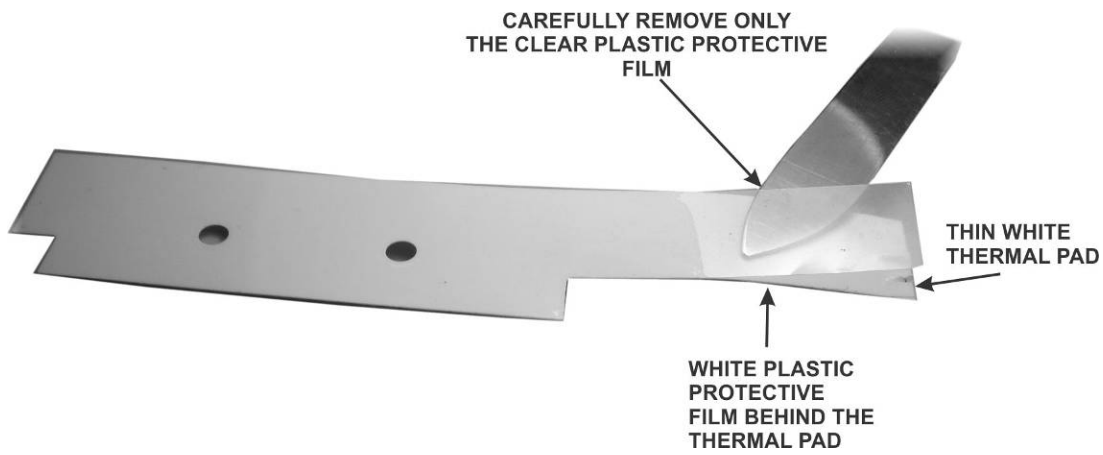

Figure 35. Preparing the Thermal Pad.
□ Locate the thermal pad and carefully separate the *clear* protective coating from one side. There are three layers: a clear plastic protective film, the very thin thermal pad itself, and a white plastic protective film. The three layers are shown in Figure 35. **Remove only the clear plastic protective film to expose the adhesive surface of the thin white thermal pad underneath.** A sharp knife is handy for separating the layers. Work carefully to avoid separating the very thin thermal pad from the white plastic underneath. The thermal pad wrinkles easily if it is allowed to separate from the white plastic and will not work properly unless it remains flat.